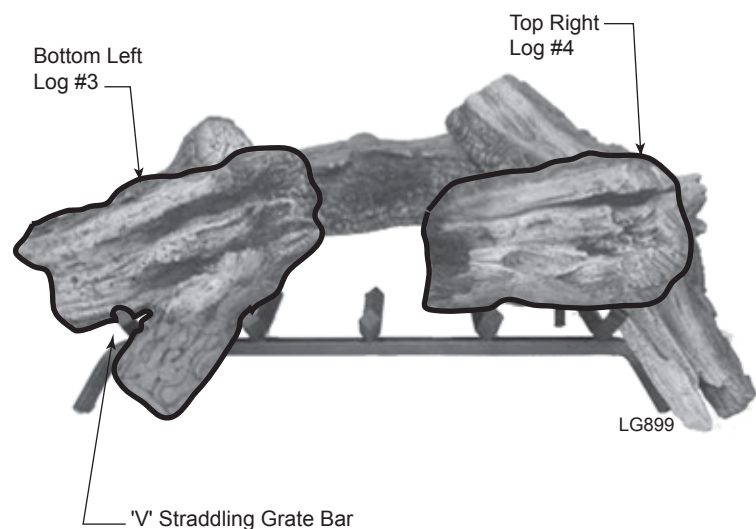

Figure 104 -
4. Place Top Right Log #4 on Bottom Right Log #2 resting on grate. *Figure 104*
5. Place Bottom Left Log #3 on grate. The "V" of the log should straddle the end grate bar. *Figure 104*